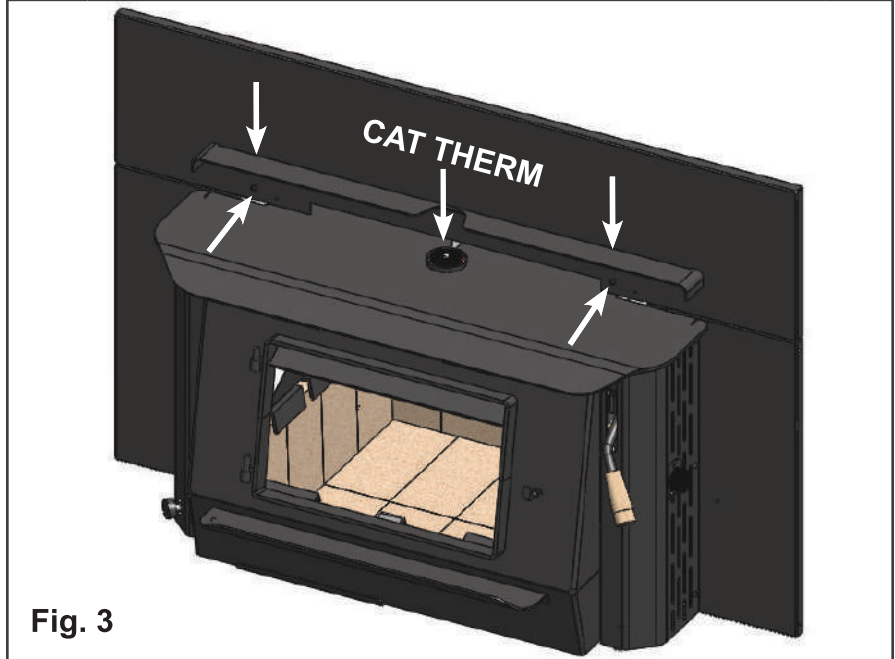

Fig. 3
8. Install the convection deck by centering it on the appliance top and then fastening it with x2 screws to the upper shroud panel. (Fig. 3) Note: a long drive bit will be required to reach into the convection deck to fasten.